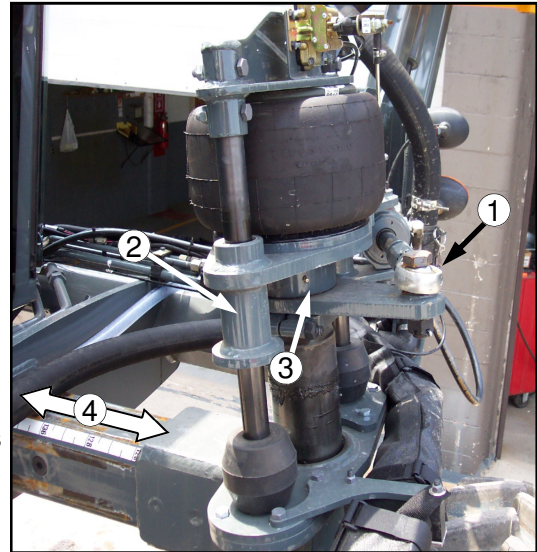

FIG. 7.1D-1
The slide path of the tread adjust (figure 7.1D-1, item 4) should be greased every 50 hours depending on the amount of usage.